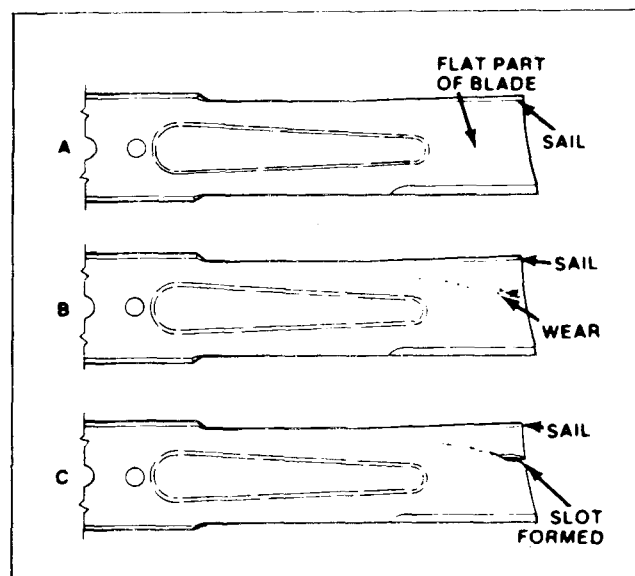

Figure 19
4. *Inspecting Blade* - Carefully examine the blade for sharpness and wear, especially where flat and curved parts meet. See Figure 19. Since sand and abrasive material can wear away the metal that connects the flat and curved parts of the blade, check the blade before using the mower. If a slot or wear is noticed (see B & C, Figure 19), replace the blade